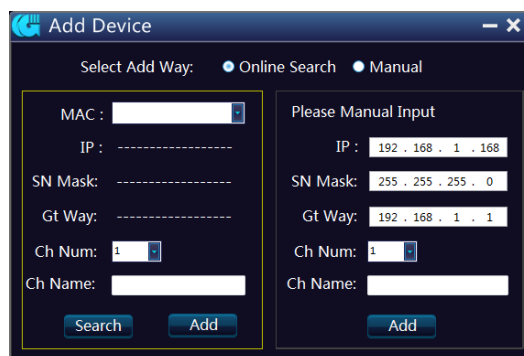

Fig. 4.2 Add device channel dialog
a. In any area of window area to click the mouse right button, Pop up  menu, click mouse left button to click the menu, and the “add device channel dialog” will pop up shown in Fig. 4.2